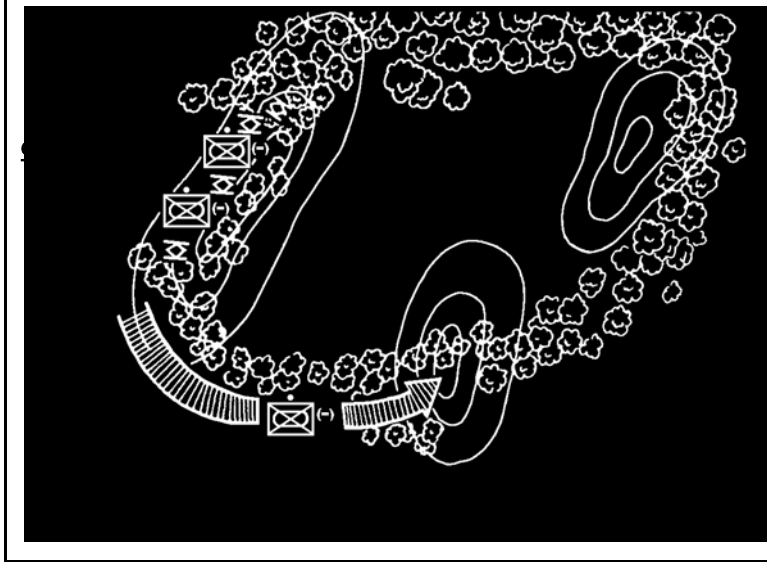

Figure 5. Dismount element—bounding overwatch.
c. Use the bounding overwatch technique when contact is expected and the terrain will not permit mounted movement, or when the dismount element is separated from the fighting vehicle element (Figure 5). This is the most deliberate and cautious of the movement techniques. The platoon leader directs the overwatching force to cover the progress of the bounding force from a covered, concealed position offering observation and fields of fire against likely enemy positions. The overwatching force must be able to immediately support the bounding force by providing suppressive fire and maneuver if the bounding force makes contact. The bounding force moves forward to a preselected position covered by the overwatching force. It secures the new position so that the overwatching force can then move forward. The length of each bound is tied to the observation, fields of fire, and range of weapons of the overwatching force.